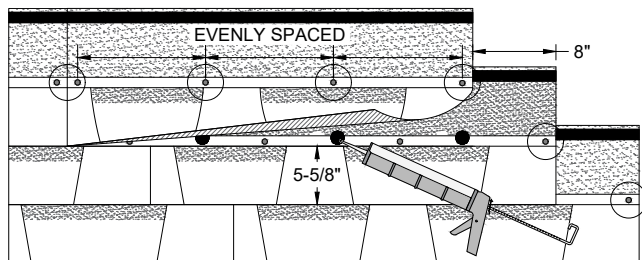

Figure 12 - Hand-Sealing Laminated Shingles
To hand-seal a laminate shingle, apply four (4) quarter-size dabs of asphalt roof cement conforming to ASTM D4586 evenly spaced under each shingle. Press shingles firmly into the cement. (See Figure 12)
shingle and *hand-sealing* of tabs (see Figure 12 for tab locations).
Windsor® shingles require a single, quarter-size dab centered under each shingle tab (see Figure 12).